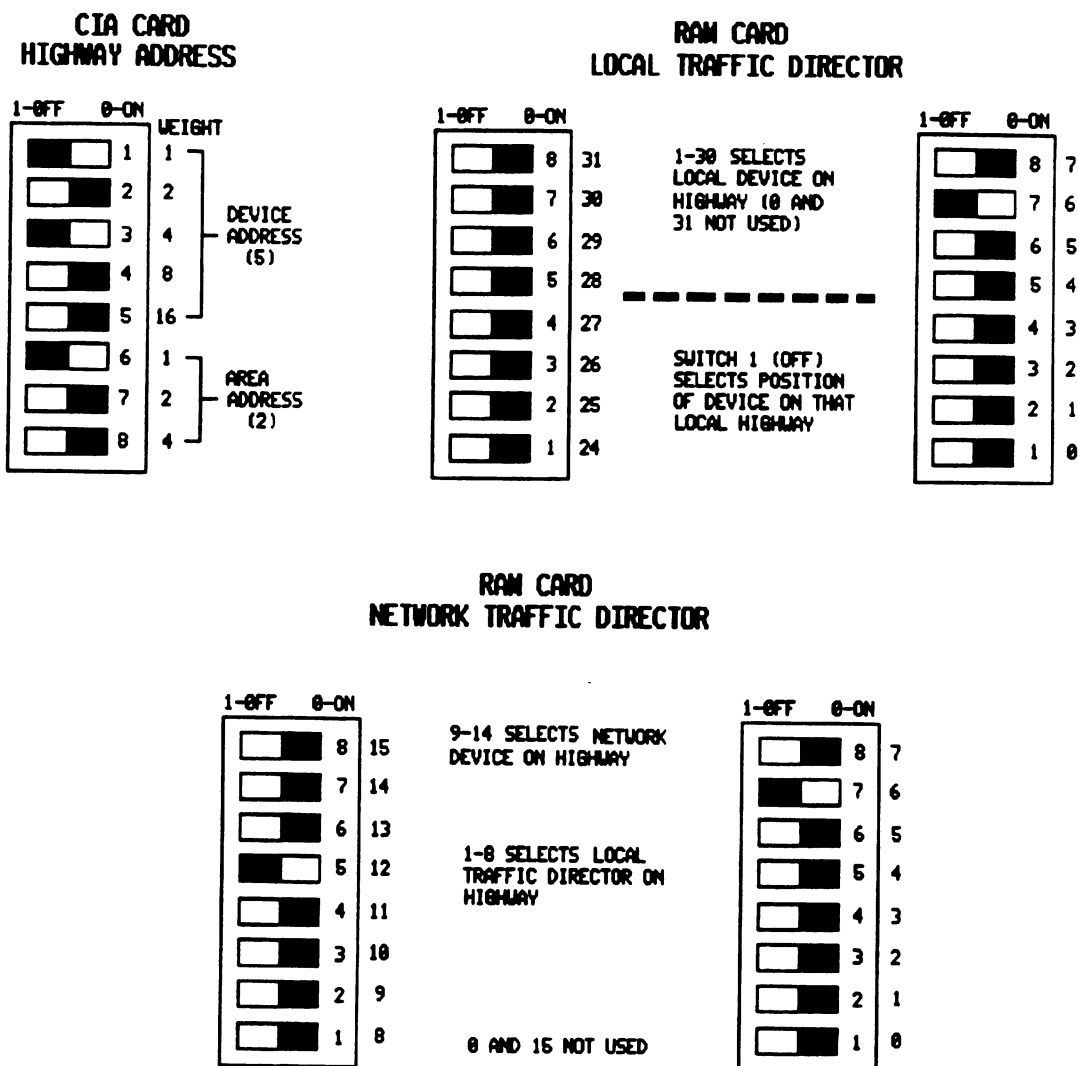

Figure 5-3. Device Addressing
In addition to the switches on cards in the MCU, there are two address switch groups in the traffic directors. The first group, on the CIA's in the traffic director, identifies the traffic director as a device on the highway. The second group, located on the traffic director memory card, enables the device addresses on the highway controlled by the traffic director. Figure 5-3 shows examples of both types of switches. For the MCU to communicate on the highway, the traffic director must indicate the correct highway number on its CIA, and the device address designated on the MCU CIA must be enabled by the correct switch on the memory card in the traffic director.
The CIA switch is an 8-position DIP switch like that used to define local and network highway addresses in other highway devices. In a local traffic director, the highway portion of the address (positions 6 through 8) identifies the local highway over which the local traffic director exercises control. The device address for the local traffic director itself is always 0 (00000), which means that switches 1 through 5 are all in the closed (0) position. To use the local highway example given in Figure 5-3, that is to enable highway address 2-27, examine the CIA card for the highway 2 local traffic director. Set the device address switch on that CIA card for highway 2, device 0.
To enable local highway addresses, the local traffic director has four, 8-position DIP switches on the front edge of its memory card. This makes a total of 32 switch positions numbered 0 through 31, on the board, as shown in Figure 5-3.
To enable network highway addresses, the network traffic director uses two, 8-position DIP switches, as shown in Figure 5-3. The 16 switch positions are numbered 0 thru 15 on the board. For this pur-